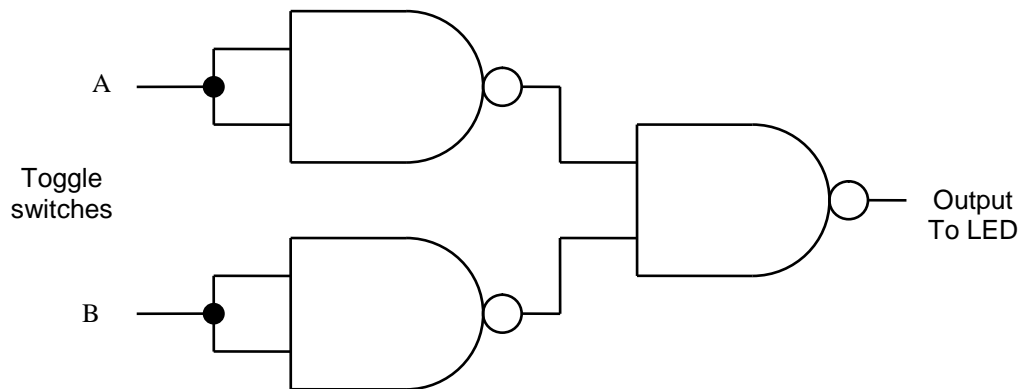

Figure 8. NAND gate equivalent circuit of an OR gate.
- 5.4.3 **OR from NAND:** Connect the circuit in Figure 8. Connect toggle switches to the circuit inputs. Connect an LED to the output. Show with a truth table that the circuit performs the OR function.